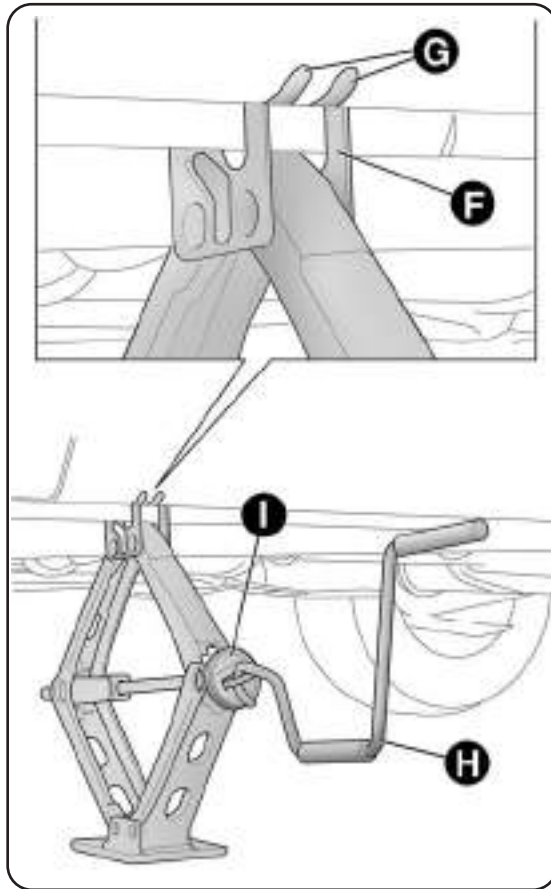

fig. 12
- make sure that the splines F - fig. 12 on the jack are firmly fitted to tab G on the side member;
- fit the handle H - fig. 12 into device I of the jack and lift the car until the wheel is several centimetres off the ground. When turning the jack handle make sure that it can turn freely without scraping your hand against the ground. The moving components of the jack (screws and joints) can also cause injuries: avoid touching them. If you become soiled with the lubricating grease, clean it off thoroughly;